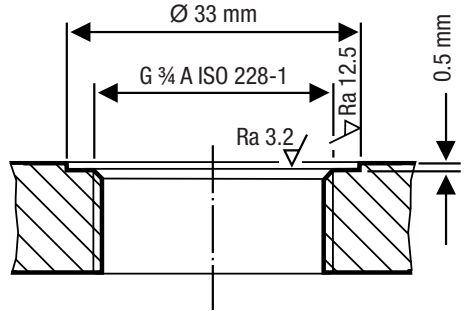

Fig. 9
- Inspect the sealing surfaces of the tank standpipe or flange cover to ensure they are perfectly machined, see Fig. 9.
Sealing surfaces must be perfectly machined, as shown in Fig. 9.